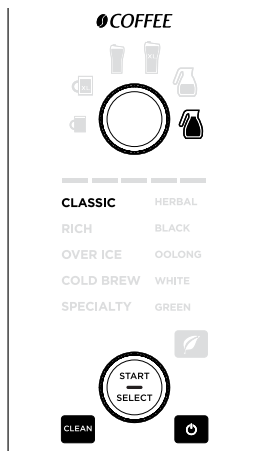

Fig. 9
- Once all parts are securely in place and the unit is powered on, select the Full Carafe size and Classic Brew setting, then press the START/SELECT dial (Fig. 9).